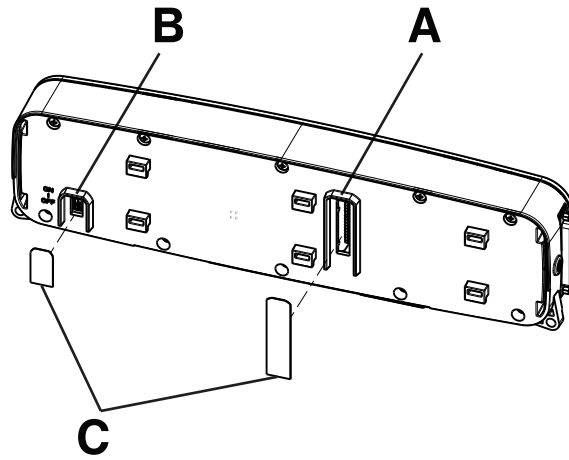

Figure 3 – Switch configuration
4. Using a straight pick, remove and discard the label (521200380902) (C) that covers the **ON/OFF** switch (B) (Figure 3).
5. Turn the **ON/OFF** switch (B) to the **OFF** position (Figure 3).
3. Using a straight pick, remove the label (521200380902) (C) that covers the **ON/OFF** switch (B) (Figure 3). Save the label.
4. Turn the **ON/OFF** switch (B) to the **OFF** position (Figure 3).